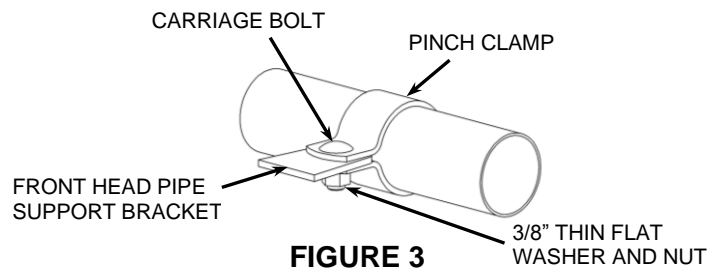

FIGURE 3
8. Slide the supplied pinch clamp over the front headpipe making sure the square hole on the clamp is facing up and towards the inside. Position the clamp over the support bracket so that the pinch clamp captures both sides of the bracket. See **FIGURE 3**. Insert the supplied 3/8" carriage bolt through the top of the pinch clamp and support bracket. Install the 3/8" thin flat washer and nut onto the bottom of the carriage bolt but **DO NOT TIGHTEN** at this time. Leave the nut loose so the headpipe can be adjusted.